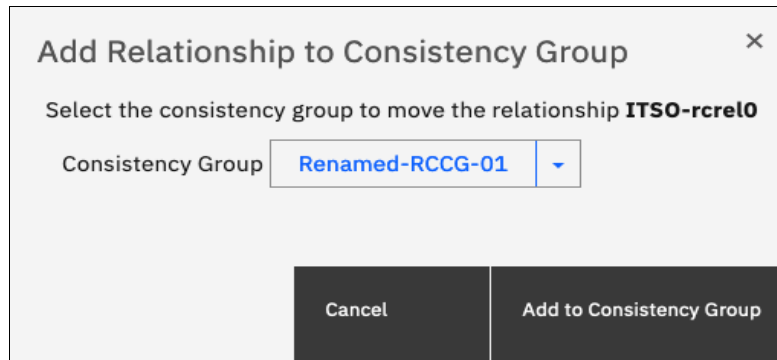

Figure 10-131 Selecting the consistency group to add the relationships to
3. Select the consistency group for this RC relationship by using the menu, as shown in Figure 10-131. Click **Add to Consistency Group** to confirm your changes.